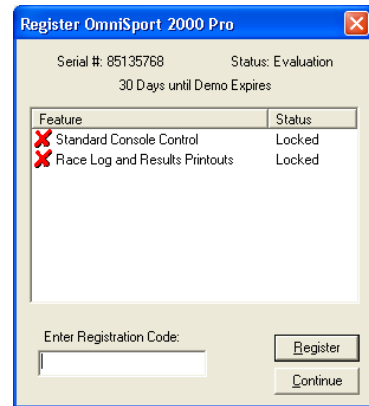

Figure 70: Registration Dialog
On initial startup, the registration dialog allows the user to either register or click [**Continue**] to bypass registration. If choosing to not register, the user has access to the demo version, which has all the same functions as the registered version, for up to 30 days. If the user is not registered by this time, the software will lock. The registration code must then be entered to continue running the software. Refer to *Figure 70*.
1. Start the program. Request the Registration Code from Daktronics and enter the code in the field as illustrated in *Figure 70*.